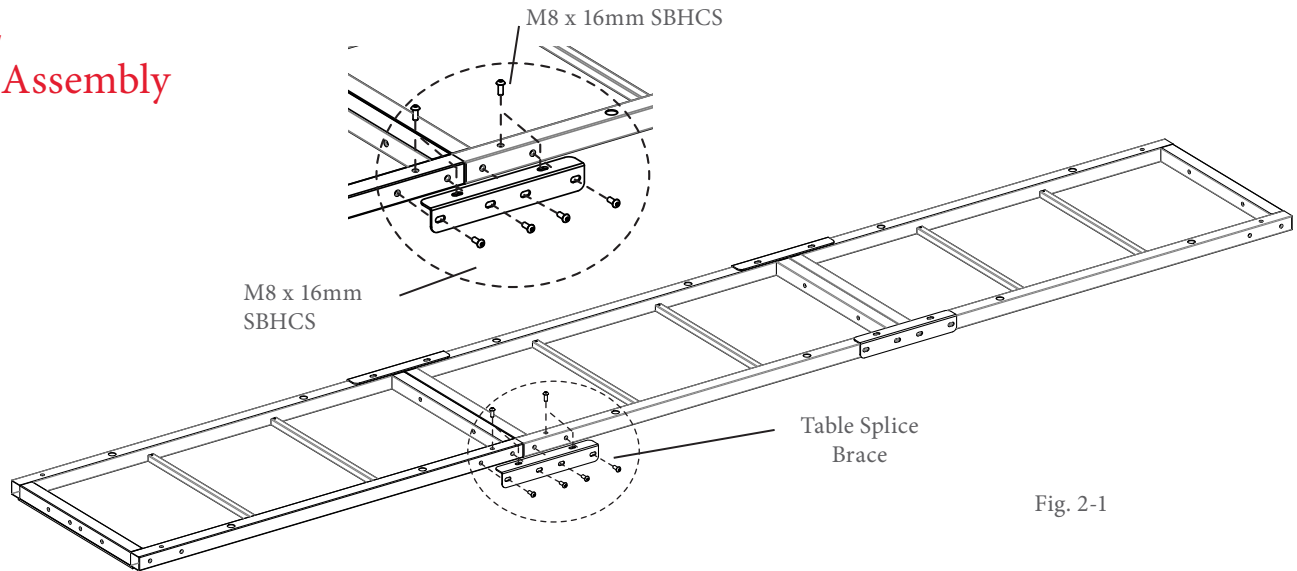

Fig. 2-1
4 -foot table section upside -down on the floor end to end (as shown in Fig. 2-1). Join the sections together by placing a table splice brace onto the sections, lining up the holes in the brace with those in the sections. Make sure the flange portion of the brace is on top (as shown).
2-4: Finger-tighten two (2) SBHCS through the top of each table splice brace (as shown). (Fig. 2-1)